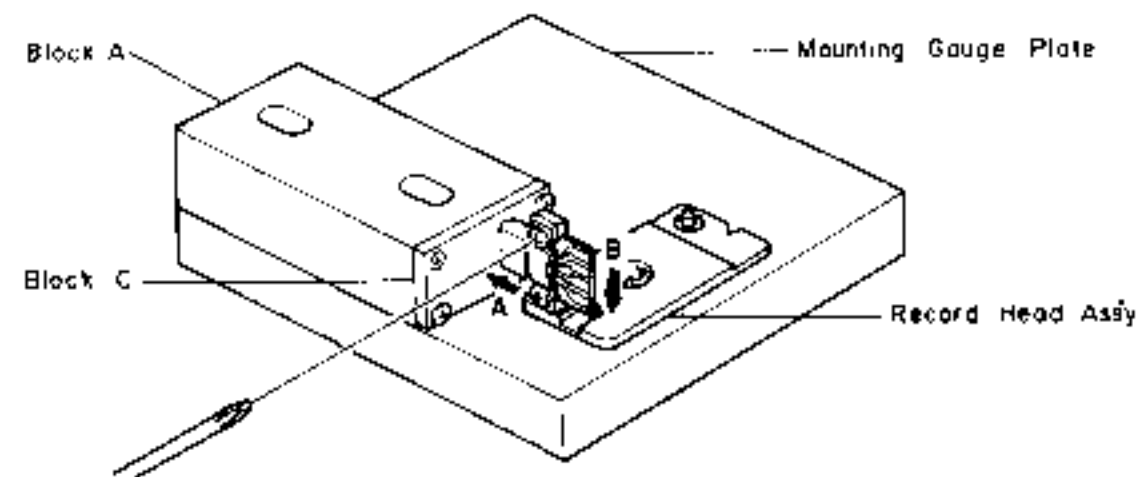

Fig. 2.18
- (5) Remove the Block B from the Mounting Gauge Plate.
- (6) As shown in Fig. 2.18, mount the R-8L record head assembly onto the Mounting Gauge Plate, then check the location of the R-8L record head surface. (If record head touches the Block C, loosen 2 pcs. of screws that assemble record head and record head plate, then place the R-8L record head assembly onto the Plate.)
- (7) Remove the R-8L record head assembly from the Mounting Gauge Plate.
- (8) Readjustment of Record Head Mounting Gauge M-9048 (DA09048A)
- (9) Remove the Block B from the Mounting Gauge Plate.
- (10) Mount the R-8L record head assembly onto the Mounting Gauge Plate.
- (11) As shown in Fig. 2.18, loosen 2 pcs. of screws that assemble record head and record head plate.